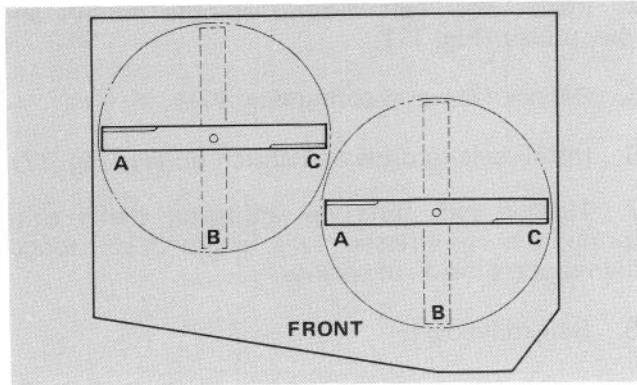
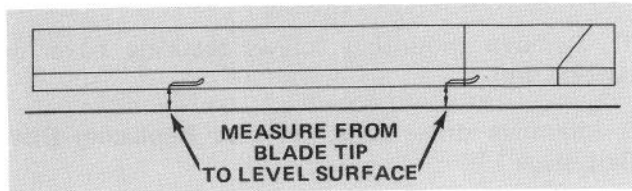

Figure 12
Figure 13
4. Position blades in the "A" position (Fig. 13) and measure from level surface to the bottom of the tip end of each blade (Fig. 13).
5. Note measurement attained at "A", rotate blades to "B" position (Fig. 12), measure distance of blades to level surface and note dimensions (Fig. 13).
6. Rotate blades to "C" position, measure and note distance measured (Fig. 12, 13).